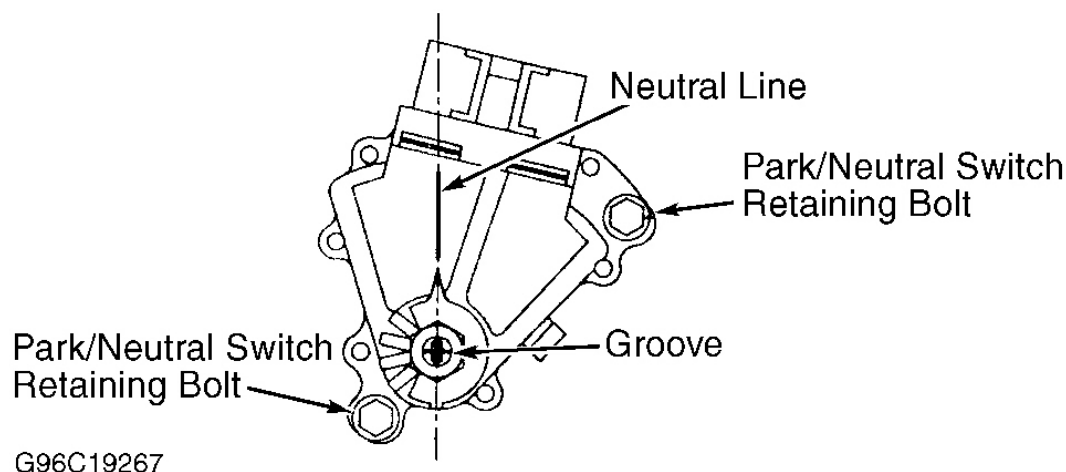

Fig. 11: Adjusting Park/Neutral Switch (Typical)
1. Loosen park/neutral switch retaining bolt(s). Position gearshift in Neutral. Align neutral line on park/neutral switch with groove on the shaft. See **Fig. 11**.